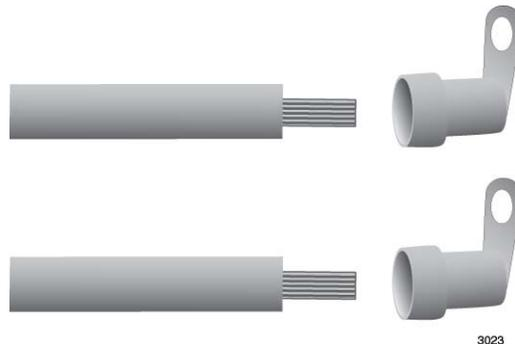

Figure 130. Attaching the Power Wires to the Right Angle Terminals
2. Insert the power wires into the right angle terminals included with the power supply and use a crimping tool to secure the wires to the terminals. See Figure 130.